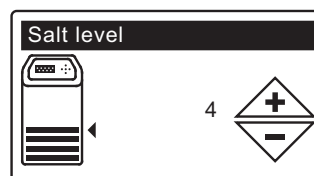

FIG. 17
9. **SALT LEVEL** Press the UP (▲) or DOWN (▼) buttons to set the salt level (See Figure 17). It should match the lowest number visible on the brinewell above the salt.
10. Press the SELECT (O) button.